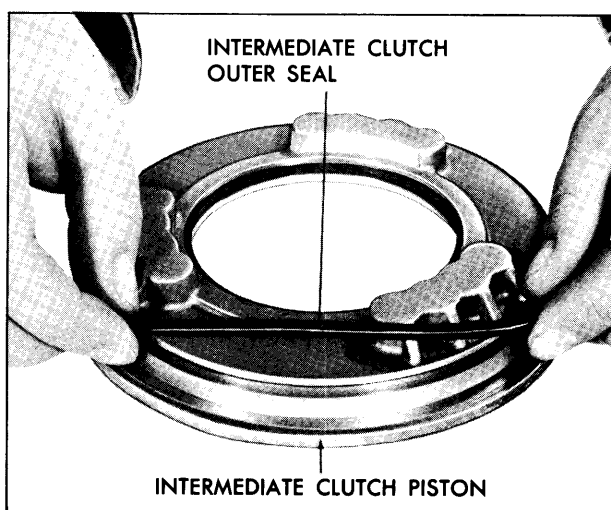

Fig. 7E-103 Removing or Installing Outer Seal
4. Air check the oil passages to be sure they are open and are not interconnected. See lubrication chart for location of holes. (Fig. 7E-240)